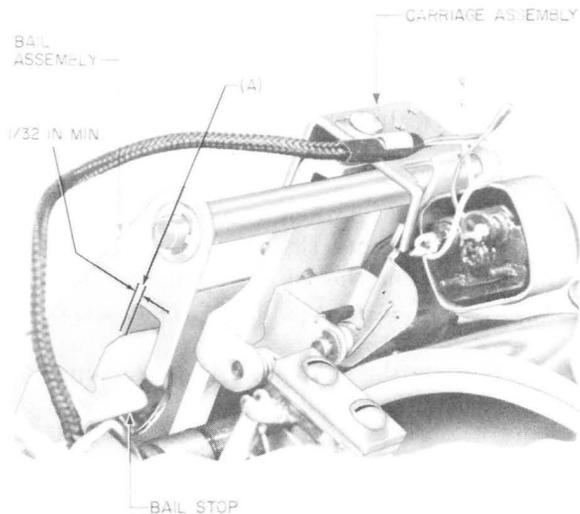

Fig. 6—Bail Stop Clearance (Shown in Unoperated Position)
4.08 Bail Stop Position: With the L1 solenoid electrically operated, the clearance between the side of the slot in the bail assembly and the side of the bail stop [Fig. 6, (A)] farthest from the drum shall be minimum 1/32 inch throughout the entire carriage travel. Check using the 92K gauge. This requirement should be checked each time the recorder is lubricated.